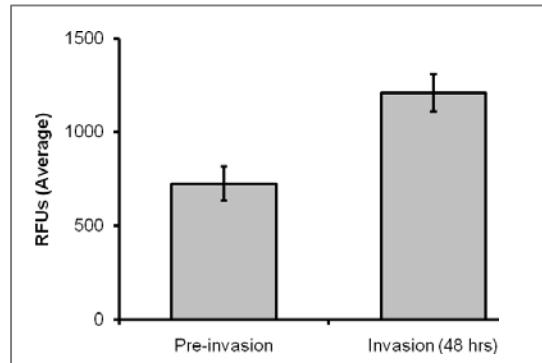

Figure 5. Cell invasion data obtained via microscopy and microplate reader analysis
10. Using the Oris™ Stopper Tool, remove stoppers (see Figure 5).
Figure 5. Removal of Stoppers. Panels A, B, and C) Position the Tines of the Stopper Tool between the Stopper Tips, D) Lift Vertically, and E) Do NOT Pry Stoppers
Sample Data Obtained via Microscopy and Microplate Reader are shown in Figure 5.